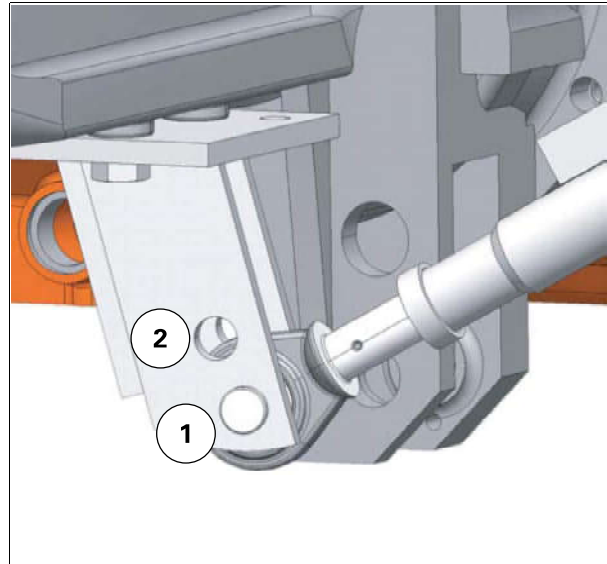

Fig. 5.
- 1. Position the stabilisers as indicated in position (1) fig. 5.
- 1. Position the stabilisers as indicated in position (2) fig. 5.